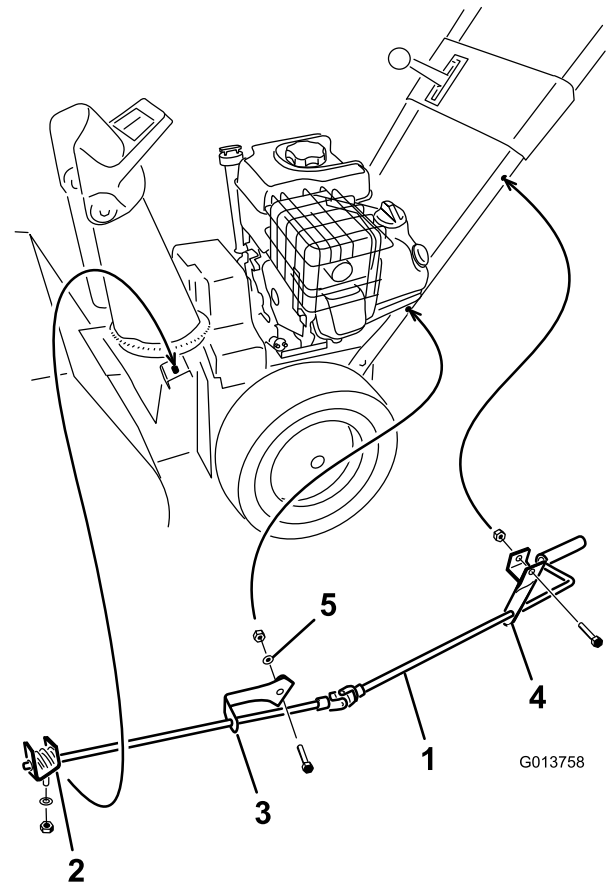

Figure 10
1. Secure the upper chute control bracket (attached to the chute control rod) to the upper left side of the handle with a bolt and a locknut (Figure 10).
2. Secure the lower chute control bracket (attached to the chute control rod) to the lower left side of the handle with a bolt, a curved washer, a flatwasher, and a locknut (Figure 10).
- Tighten the locknuts that secure the 2 chute control brackets (Figure 10).